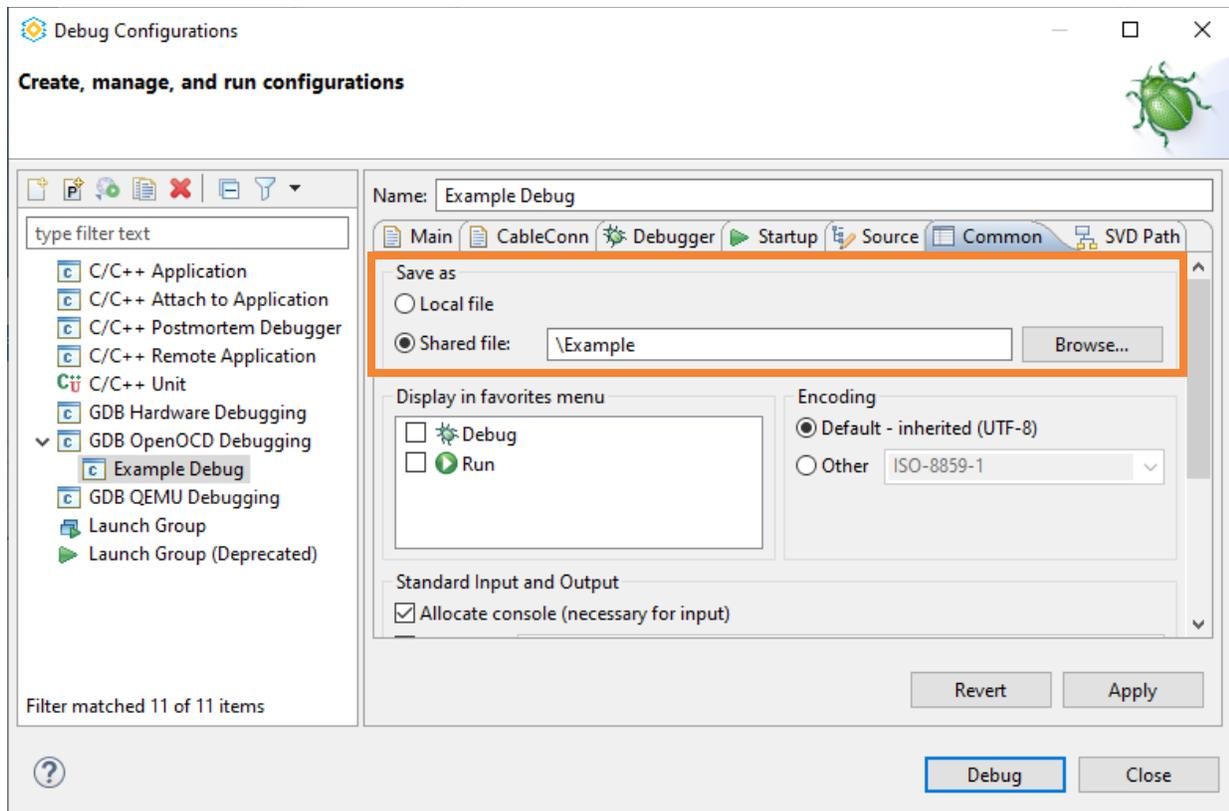

Figure 3.35 Common Tab of Debug Configurations
- (Optional) Select the **Common** tab (Figure 3.35). The **Save as > Local file** option is selected by default. This causes the debug launch configuration to be saved into the workspace. Change setting the **Save as** field to **Shared file** to let the debug launch configuration saved into the project that aids the project portability.
- Click the **Debug** button (Figure 3.35).